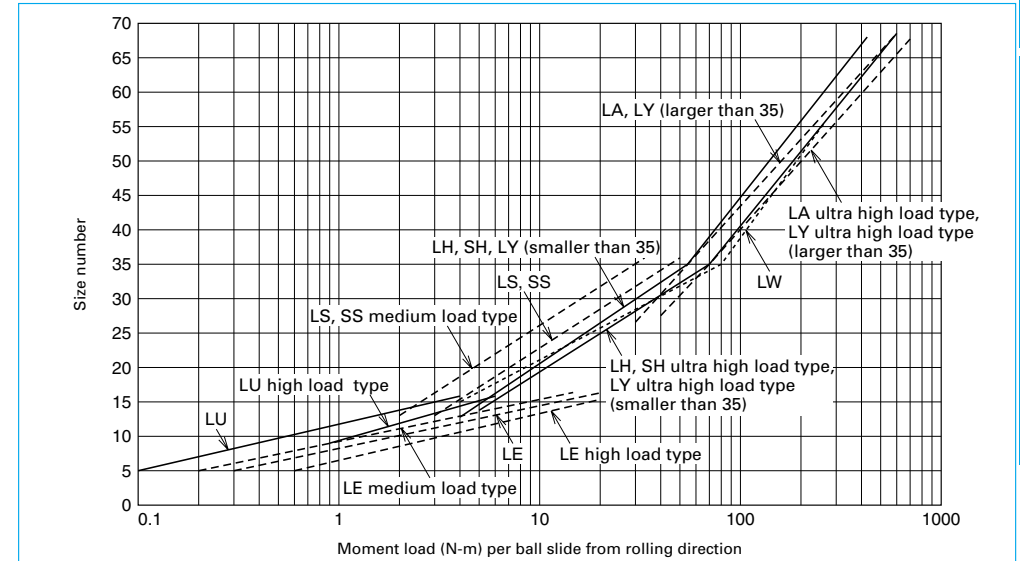
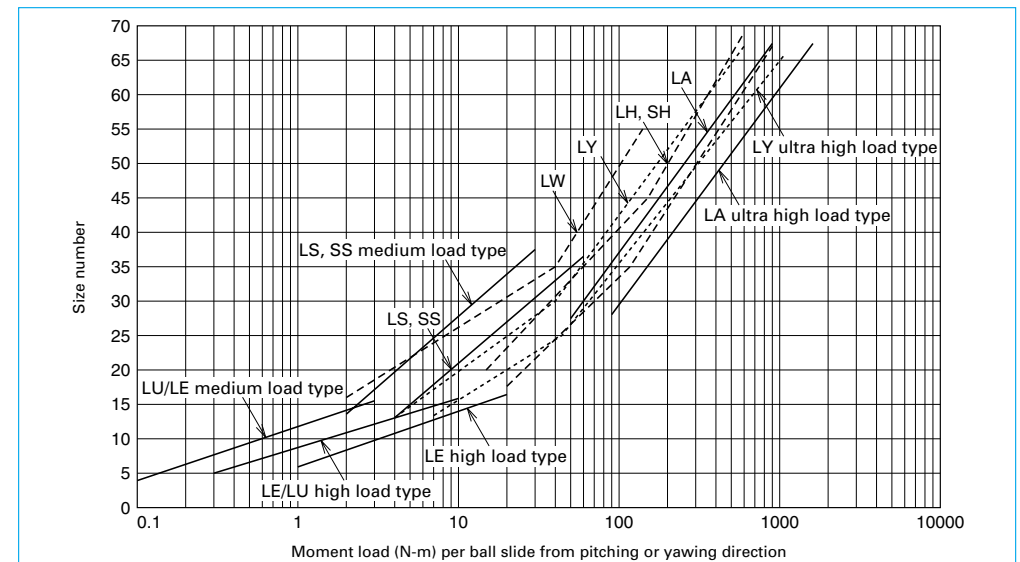

Fig. I-3-8 Selection based on the moment load, rolling direction
Fig. I-3-9 Selection based on the moment load, pitching or yawing direction
- Select the size (model number) based on the moment load per ball slide referring to either Fig. I-3-8 or Fig. I-3-9.